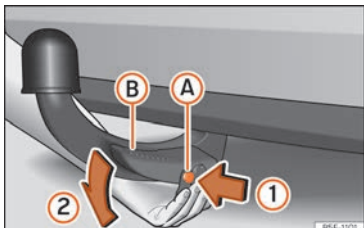

Fig. 183 Removing the tow hook
- Press the release bolt (A) in the direction of arrow (1), and at the same time press lever (B) as far as it will go in the direction of arrow (2) » Fig. 183.